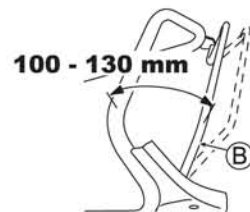

Fig. 25
Adjust so that the machine runs (the drive clutch gets engaged) when the distance between Drive clutch lever (B) and the handle is 100 - 130 mm as shown in Fig. 25.